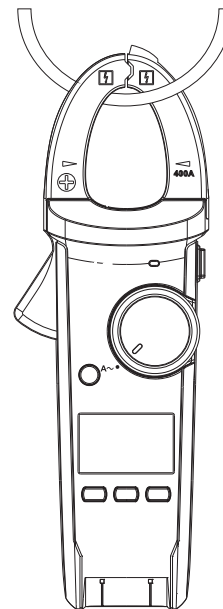

Figure 2
1. Measuring of AC Current (See Figure 2)